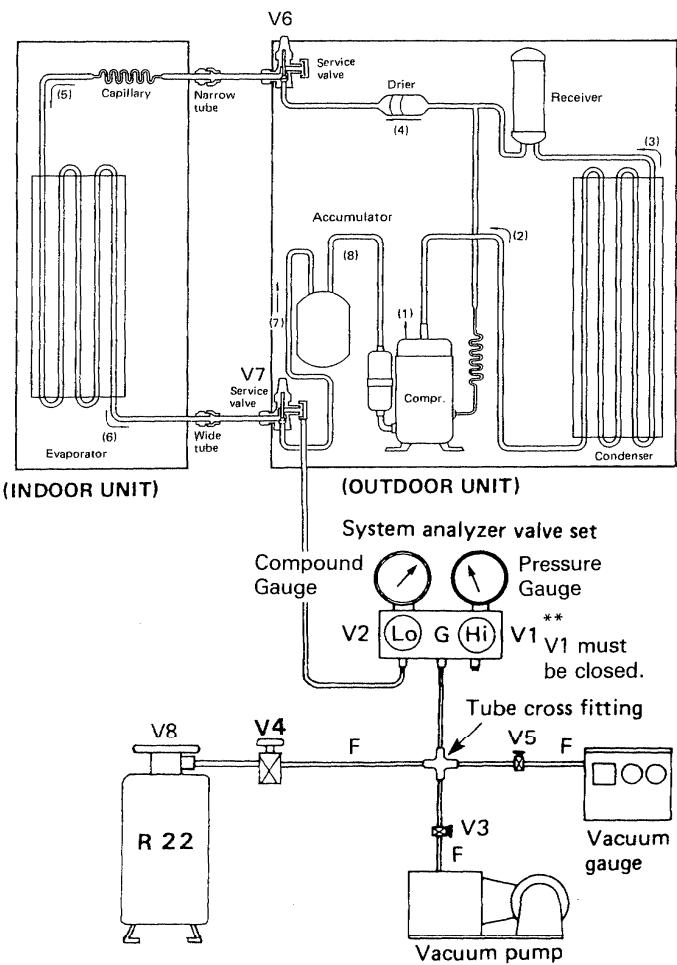

Fig. 24
- 1) Connect instrument as in Fig. 24.